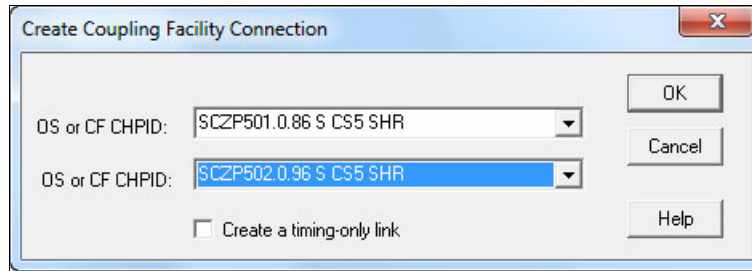

Figure 6-31 HCM - Create Coupling Facility Connection: selecting second CS5 CHPID
19.From the pull-down, select the second CS5 CHPID we defined (SCZP502 - 0.96), and then click **OK**. See Figure 6-31.